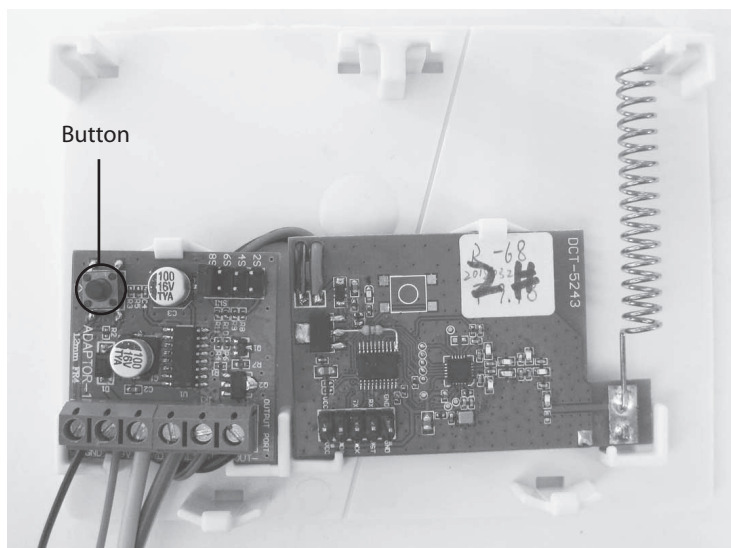

Figure 2
- 3) To activate the transmitter, press the small button on the PCB (Figure 2).